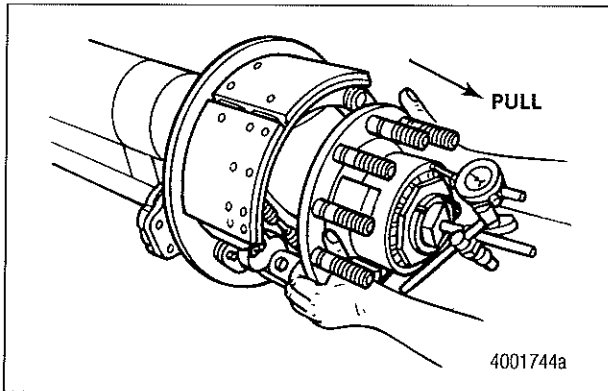

Figure 30
- C. Slightly rotate the wheel end in both directions while pulling outward until the dial indicator does not change. Figure 30.